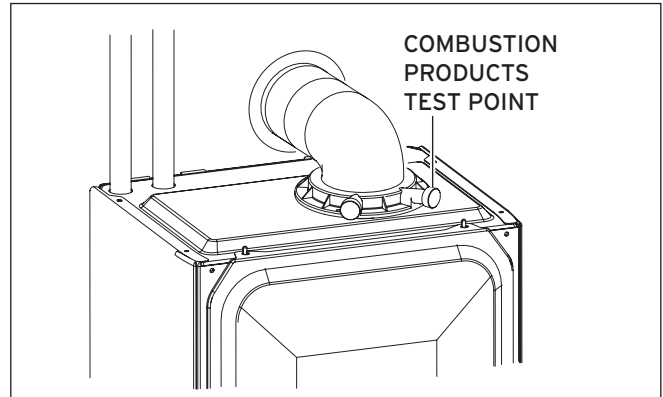

Fig. 9.1 Test point
- Measure the CO2 content at the combustion products test point, see fig 9.1.